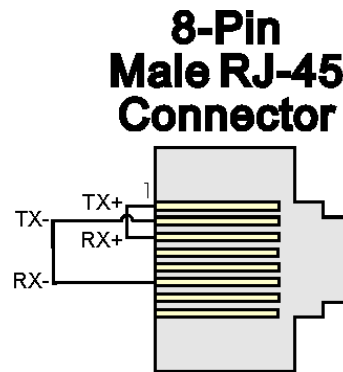

Figure 5-16. RJ-45 Ethernet Loop-back Plug
This test configures the Ethernet port's ability to transmit and receive via the twisted pair. The test transmits frames and compares them against received frames. You need a special loop-back plug (shown in *Figure 5-16*) to perform the Ethernet loop-back test:
1. Connect an external Ethernet loop-back plug (see *Figure 5-16*) to the Ethernet port on the CPU module to be tested.